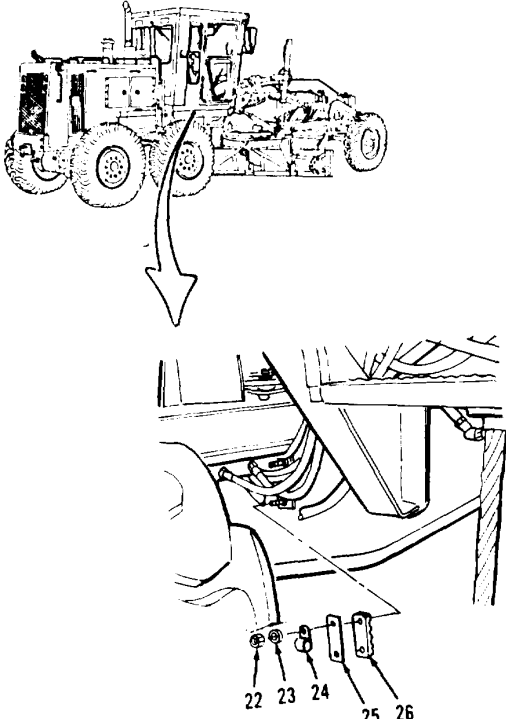
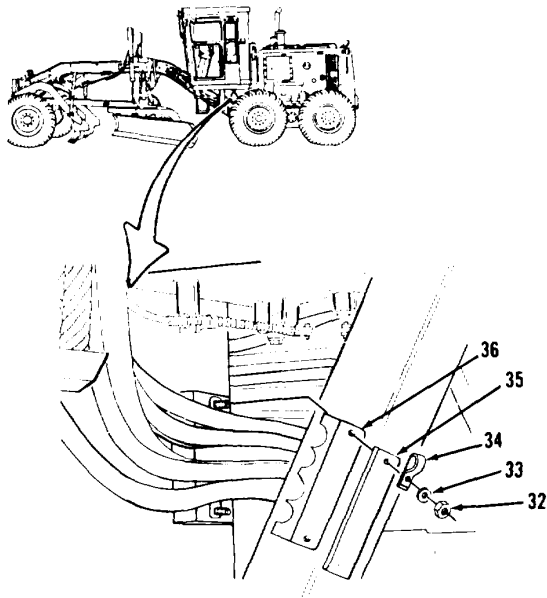
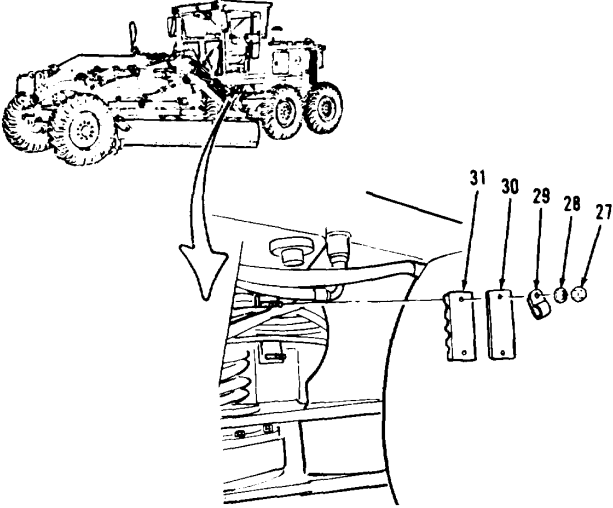

Figure 5-20.
Figure 5-22.
Figure 5-21.
- 11. Remove two nuts (22) and washers (23, Figure 5-20).
- 12. Remove clip (24).
- 13. Remove plate (25) and clamp (26).
- 14. Remove two nuts (27) and washers (28, Figure 5-21) from under left front side of engine compartment.
- 15. Remove clip (29).
- 16. Remove plate (30) and clamp (31).
- 17. Disconnect cable (54) from transmission modulation central housing. Refer to paragraph 8-5, TM 5-3805-261-20.
- 18. Remove two nuts (32) and washers (33, Figure 5-22) from under left, rear of cab.
- 19. Remove clip (34).
- 20. Remove plate (35) and clamp (36).